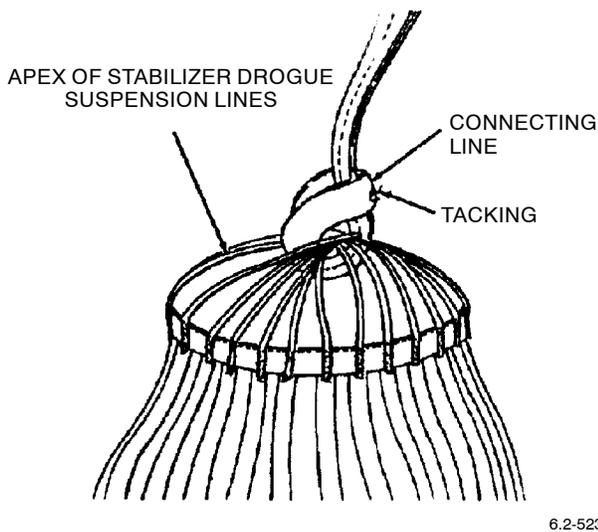

Figure 11. Attachment of Connecting Line to Stabilizer Drogue
b. Pass free end loop of connecting line around apex suspension lines of stabilizer drogue (Figure 11). Route complete controller drogue thru loop of connecting line and pull tight. Tack loop with one turn of size 6 thread, double and waxed; tie off.